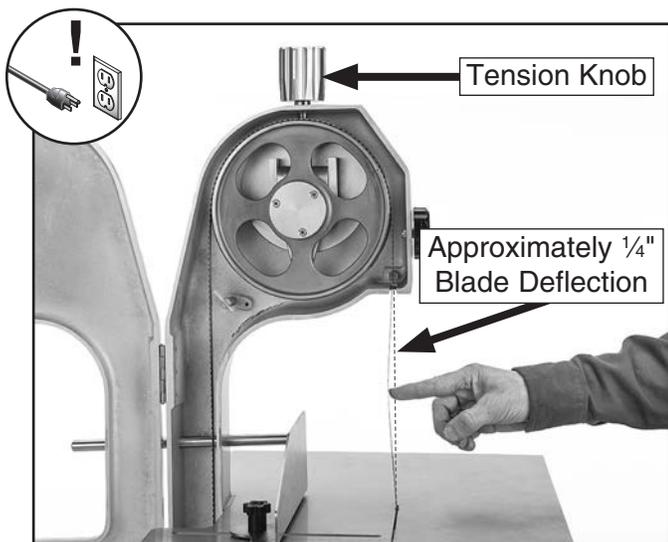

Figure 11. Blade deflection during tensioning.
- Rotate blade tension knob clockwise (see **Figure 11**) to tension blade until there is approximately $\frac{1}{4}$ " deflection when pressure is applied to middle of blade.